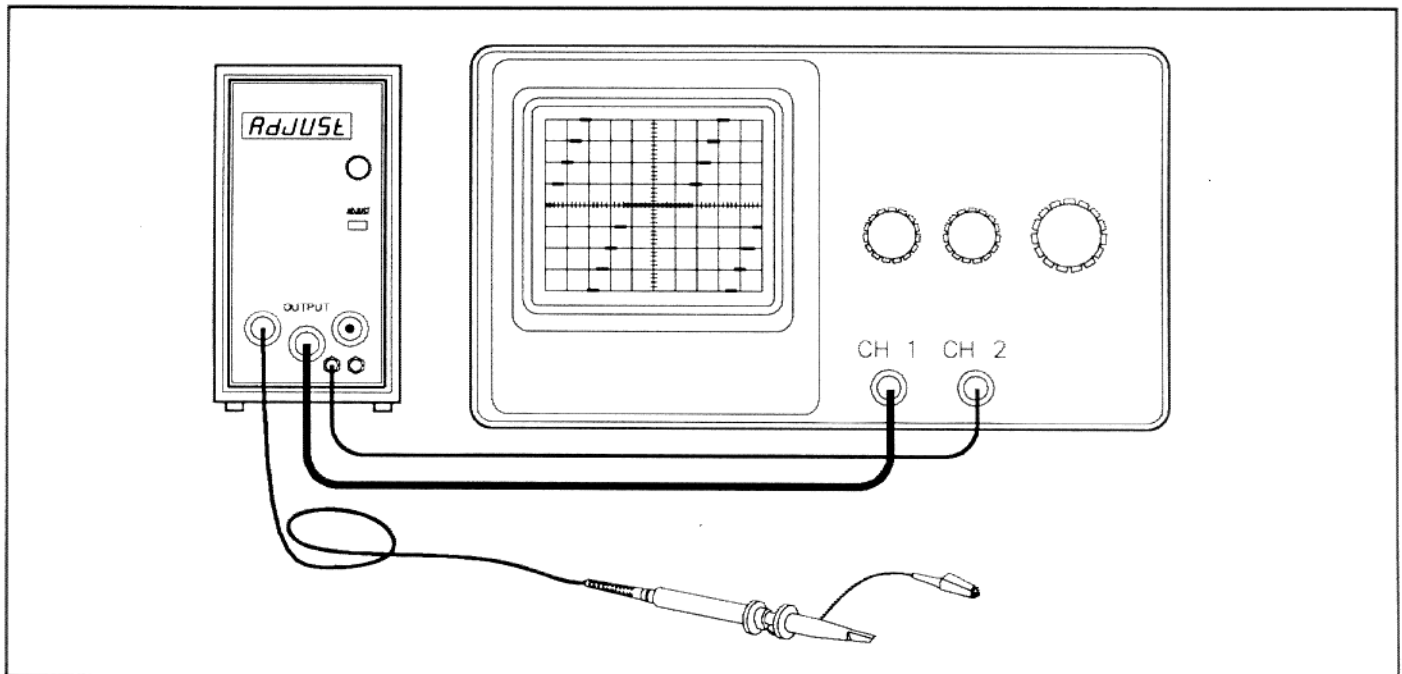

Figure 2-2. The TVC 501 Connected to an Oscilloscope.
After making these connections, your setup will look similar to Figure 2-2.
2. Verify that the TVC 501 **OUTPUT** is connected to the oscilloscope input via the output cable. (See Figure 2-2 and the section titled "Connecting Probes and Cables" earlier in this chapter for information about connecting the TVC 501 to the oscilloscope.)